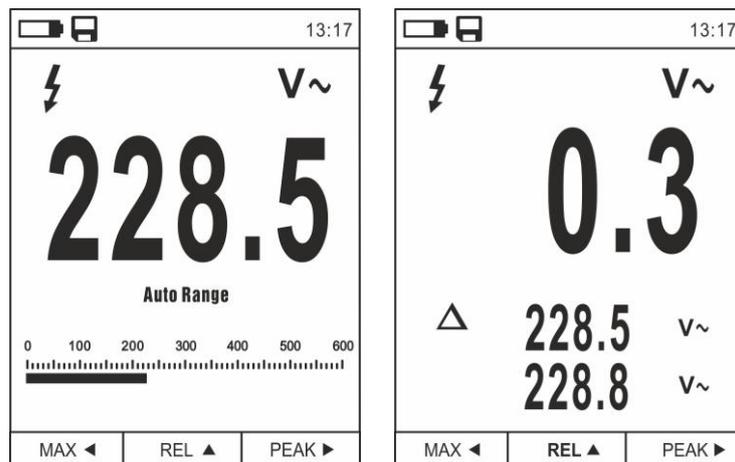

Fig. 8: Relative measurement
1. Press key **REL ▲** to enter relative measurement (see Fig. 8 – right side). The instrument zeroes the display and saves the displayed value as a reference value which subsequent measurements will be referred to. Symbol “Δ” appears on the display. Functions “MAX/MIN” and “PEAK” are not active in this mode.